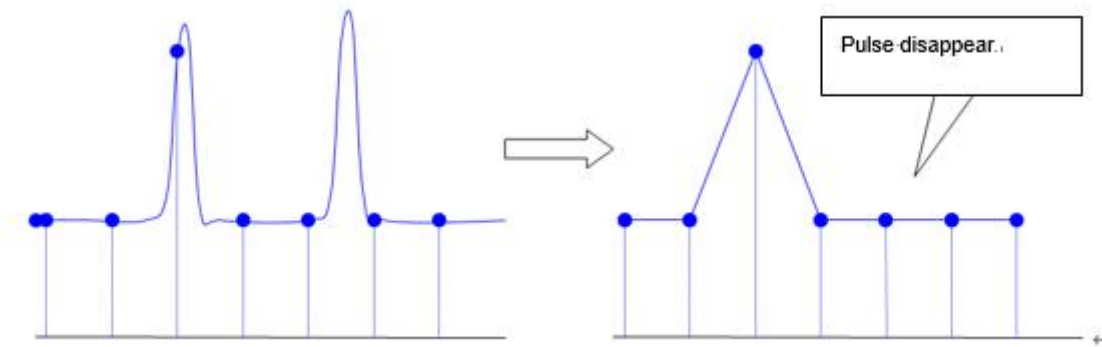

Figure 10-3
- **Waveform Lost:** Due to low sampling rate, the reconstructed waveform not reflect the actual signal. As shown in Figure 10-3.